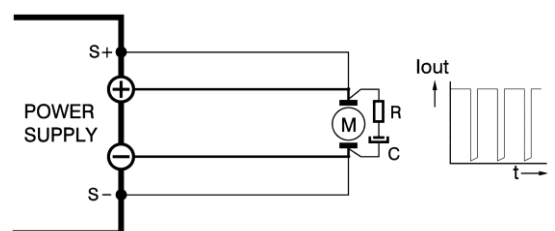

Figure 7.9: Remote sensing on a pulsating load.
In this case a large electrolytic capacitor (Cd) in series with a damping resistor (Rd) both in parallel with the load will help, see Figure 7.9. Check that the capacitor Cd in combination with the load leads and resistor Rd forms a well damped circuit.
- When using remote sensing on a pulsating load (for instance a DC motor), use a capacitor in series with a resistor over the load see Figure 7.9. With this the AC component caused by the pulsing of the load is filtered out.